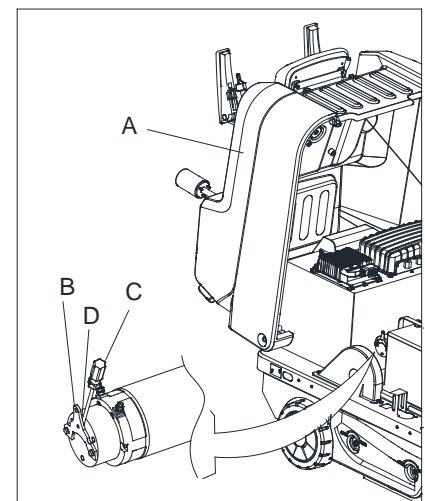

Figure 15
1. Open the cover (A, Figure 15).
2. Pull the handle (B, Figure 15) of the drive motor outward.
3. Insert a screwdriver (C, Figure 15) into the slot (D, Figure 15). Close the cover, and then the machine can be pushed or towed.
4. When the machine reaches its destination, remove the screwdriver (C, Figure 15), and the machine will be able to operate normally.